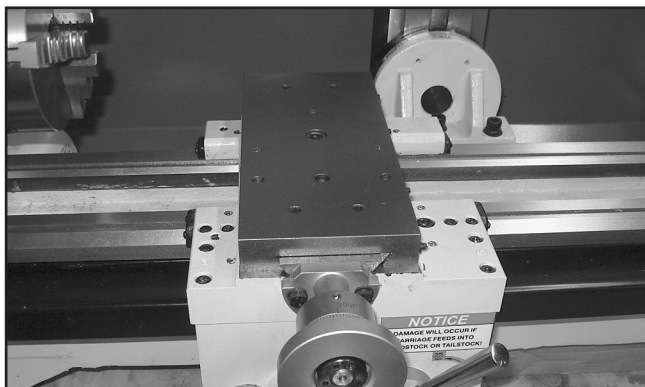

Figure 4. Cross slide with compound slide removed.
2. Remove the compound slide by unthreading the two bolts that hold it in place (**Figure 4**).